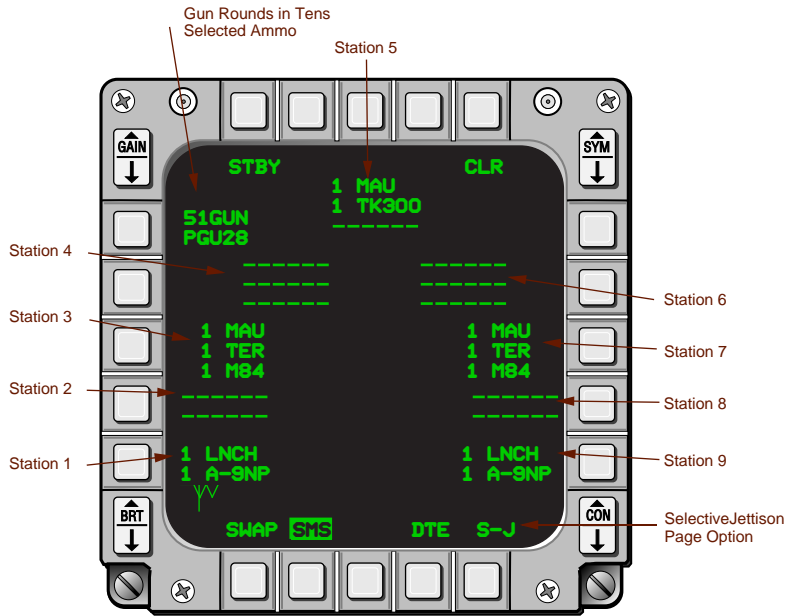

Figure 1-33 SMS Inventory Page in Navigation Mastermode
**Inventory Page.** The INV page displays what stores are loaded on the airplane (Figure 1-33). Loadable stations are displayed in numerical order 1 through 9 clockwise from the lower left corner clockwise to the right lower corner. Stations 1 through 4 are the left wing stations, Station 5 is the center station, and Stations 6 through 9 are the right wing stations. Racks and weapons are displayed at the appropriate station in the sequence in which they are loaded. Unloaded Stations are displayed with dashed lines. When hung stores are detected, the HUNG STORES advisory is displayed at the affected Station.